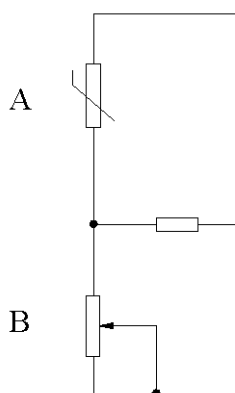
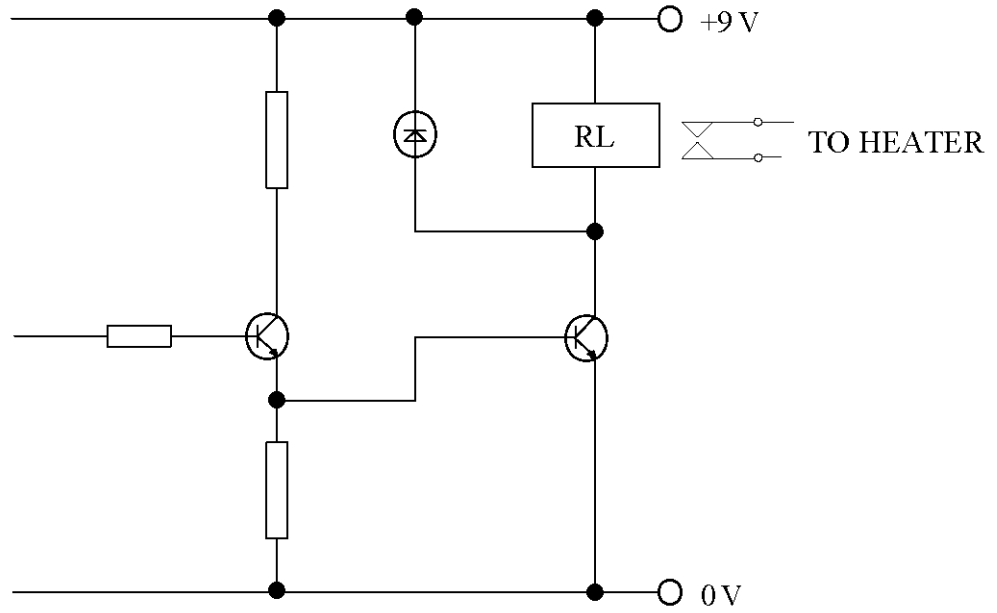

Figure 2
Figure 3
The sensing part of the circuit created to operate the sprinkler is shown in **Figure 2** below.
- (c) The circuit could also be modified to sense ice. Complete **Figure 3** below to show how you would re-arrange the components from **Figure 2** to detect ice. The heater must turn on when ice is detected.